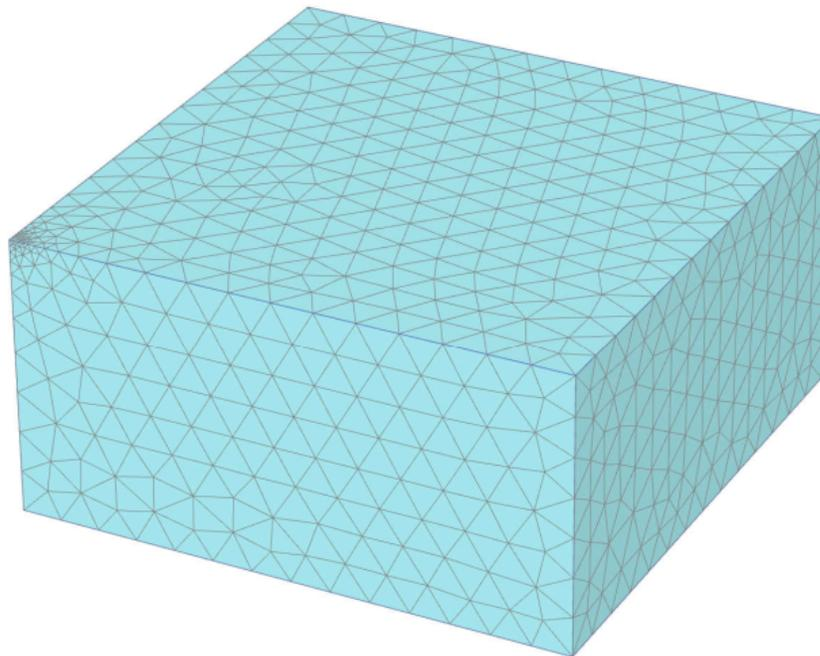

Figure 120: The generated mesh
4.  View the generated mesh (See Figure 120 (on page 149)).